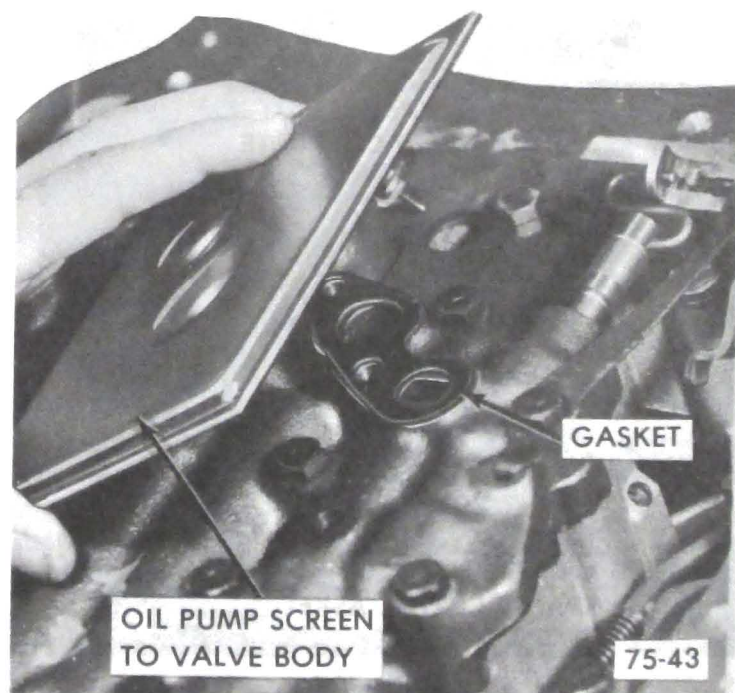

Figure 75-61
2. Remove strainer assembly and gasket from valve body. See Figure 75-61.